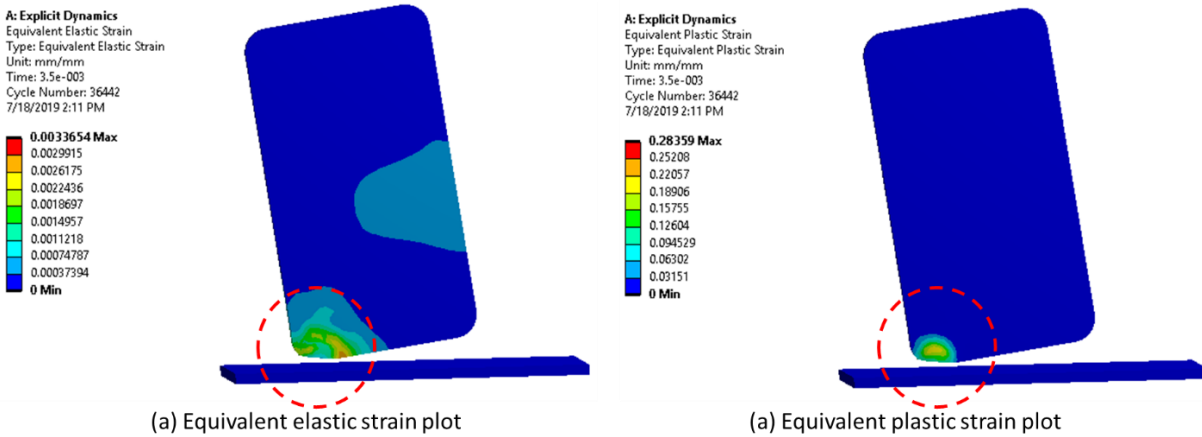
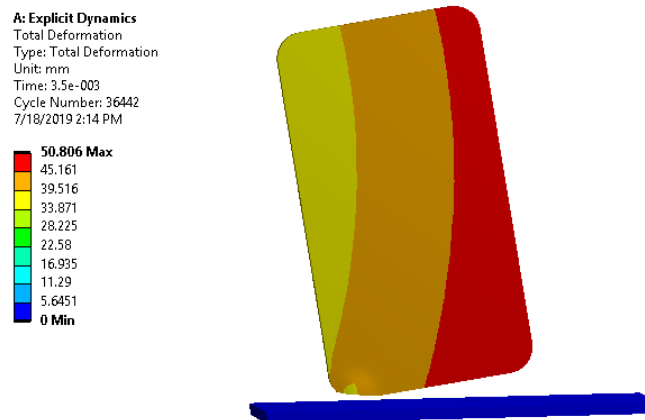

Figure 2. Equivalent elastic strain contour plot
Figure 3. Deformation contour plot
- Run the simulation and review the results. A contour plot of the equivalent elastic and plastic strain at time 0.035s are shown in Figure 2. The largest strain happens in the red circular region. From the deformation plot at time 0.035s (Figure 3), however, the largest deformation occurs at the right edge. It can be observed that large deformation does not necessarily